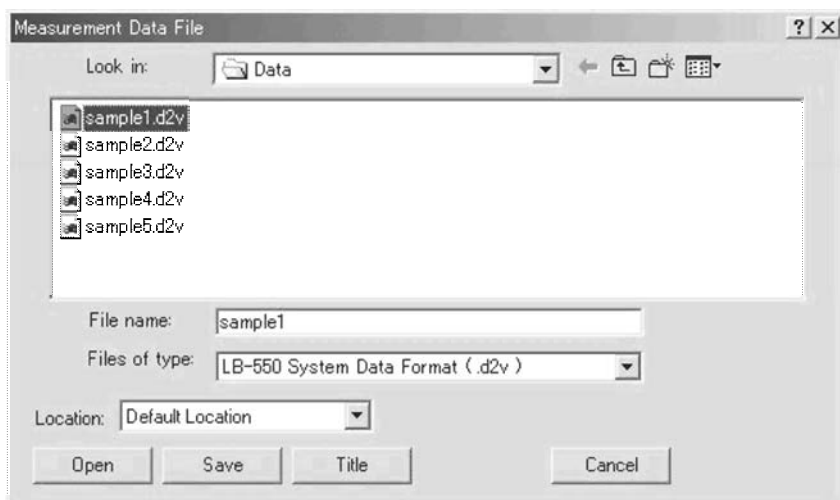

Figure 15: Measurement Files dialog box
1. Click on "Measurement Files" in the "File" menu on the Distribution window. The Measurement Files dialog box will open (Figure 15).